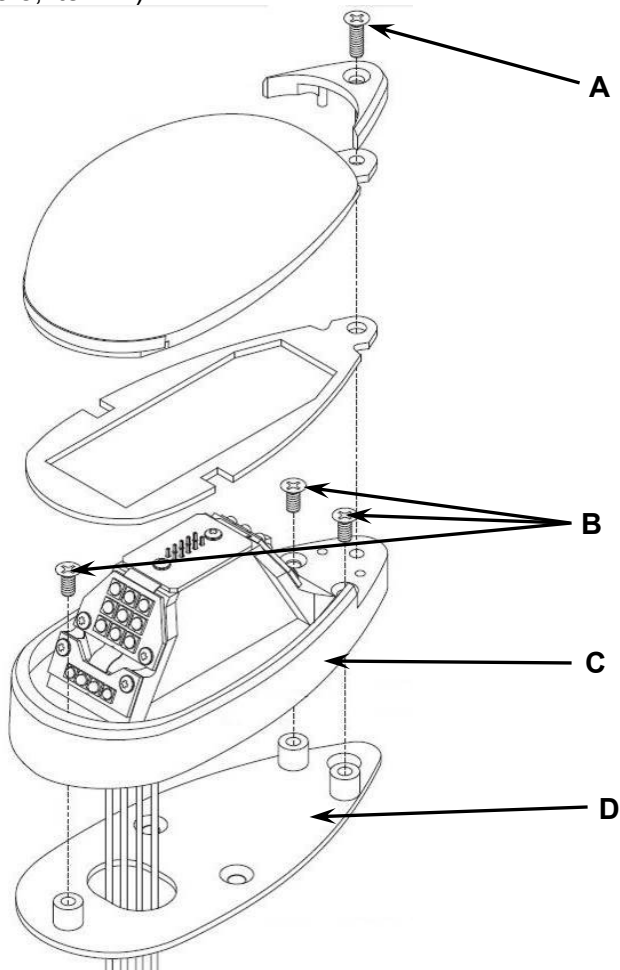

Figure 8 Structure of wingtip Position/Anti-Collision Lights
- Remove the Phillips head screw (Figure 8, item A) and the lens retainer. Carefully remove the lens from the light assembly.
- Remove and keep the three Phillips head screws that attach the baseplate to the light assembly (Figure 8, item B). Remove the light assembly (Figure 8, item C) from the baseplate (Figure 8, item D).